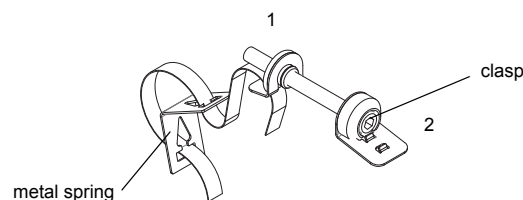

Fig. 9.49: Clasp, metal spring with tension strap
- Insert approx. 20 mm of the tension strap into the slot of part (1) of the clasp (see Fig. 9.49). Bend the end of the tension strap back.